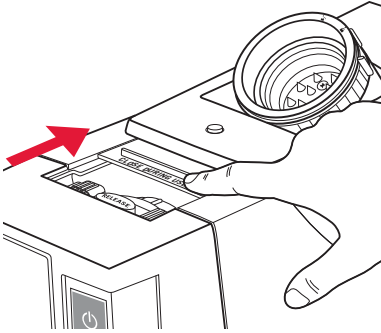

Figure 6
9. Open the pressure wall cover. See figure 6.